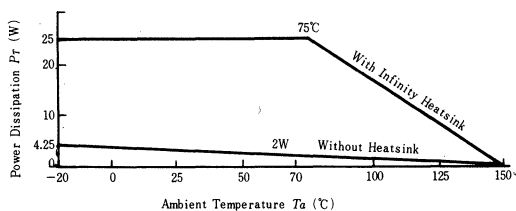

Fig.1
2. See the derating curve of Fig.1